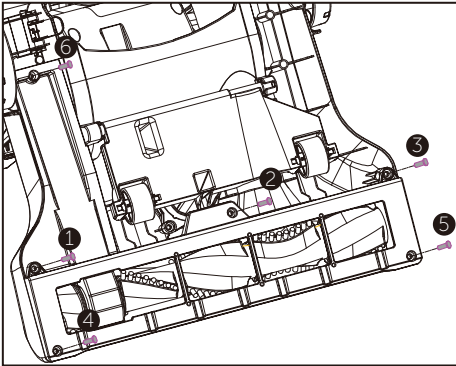

Fig 1
3. Pull up on hose connection to release hose end from hose inlet (Fig.1).
1. Press release button and lift o° dust container (Fig. 1).
- Use a Philips screwdriver to remove 6 screws at the bottom of the base (Fig 1) lift o° brush cover